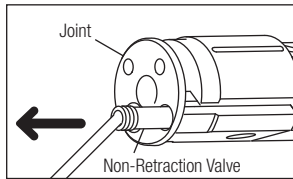

Fig. 10
- 2) Pull out the joint then remove the Non-Retraction Valve. Pull out the old Non-Retraction Valve with thin stick. (Fig. 10)